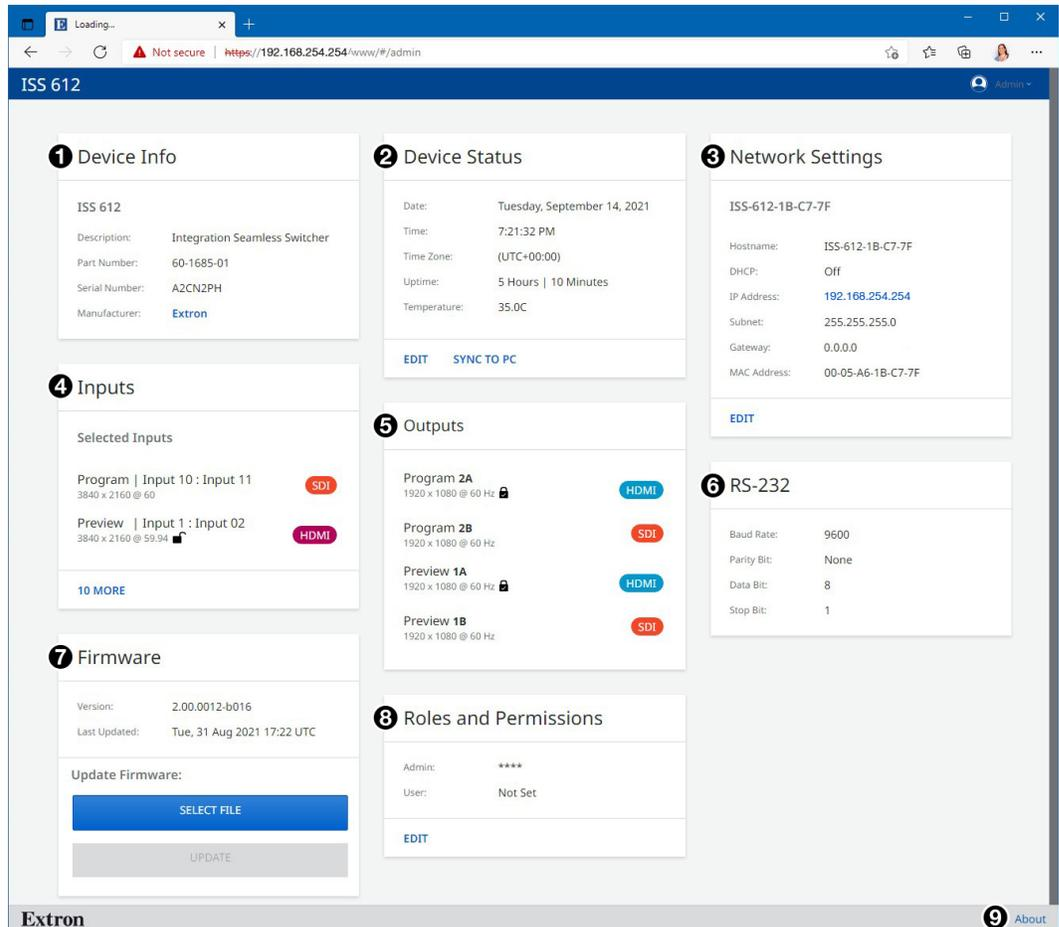

Figure 41. ISS 612 Internal Web Page
The ISS internal web page (see figure 41) provides an overall, read-only view of the status of the seamless switcher, with some editable fields for the following categories:
The **Device Info** panel (see figure 41, **1**, on page 70) displays a brief product description, the part number, and the serial number. The panel also contains an **Extron** link, which opens the Extron website in a new window.
The **Inputs** panel (see figure 41, ❹, on page 70) displays the signal type of the active input signal as well as its HDCP status.
The **Outputs** panel (see figure 41, ⑤, on page 70) displays the resolution and refresh rate of the outputs, their signal type, and the HDCP status of all connected outputs.
The view-only RS-232 panel (see figure 41, 6 on page 70) displays the RS-232 protocol for the ISS 612 serial port.
The Roles and Permissions panel (see figure 41, 8 on page 70) displays whether Admin and User passwords have been set. It does not display the actual password.